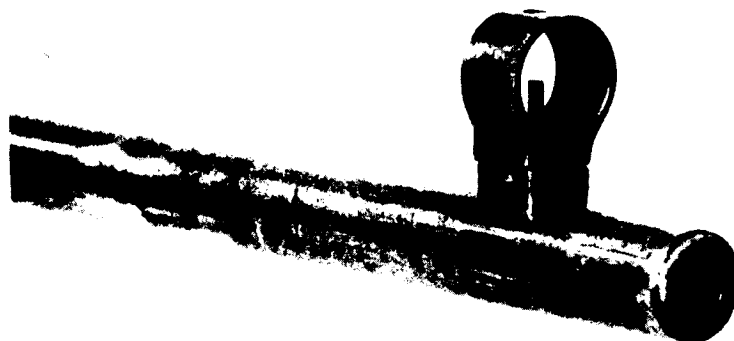

FIGURE 18. FRONT SIGHT FOR RIFLE M1891/30.
c. The rifle M1891/30 has a hooded post-type front sight (fig. 18).